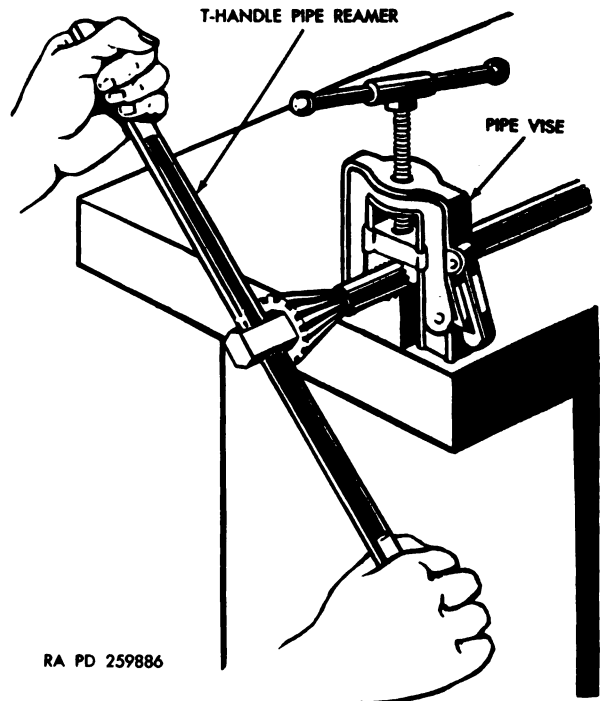

Figure 265. Removing bur from cut pipe.
d. *Pipe Reamers.* Before using a pipe reamer (fig. 265), inspect the flutes to see if they are sharp and even and free from nicks or burs. Insert the point of the reamer into the pipe and push firmly. Rotate the handle of the reamer clockwise in short even strokes until the burs inside the cut piece of pipe are completely removed. Remove the reamer from the pipe by rotating it clockwise and removing it simultaneously.